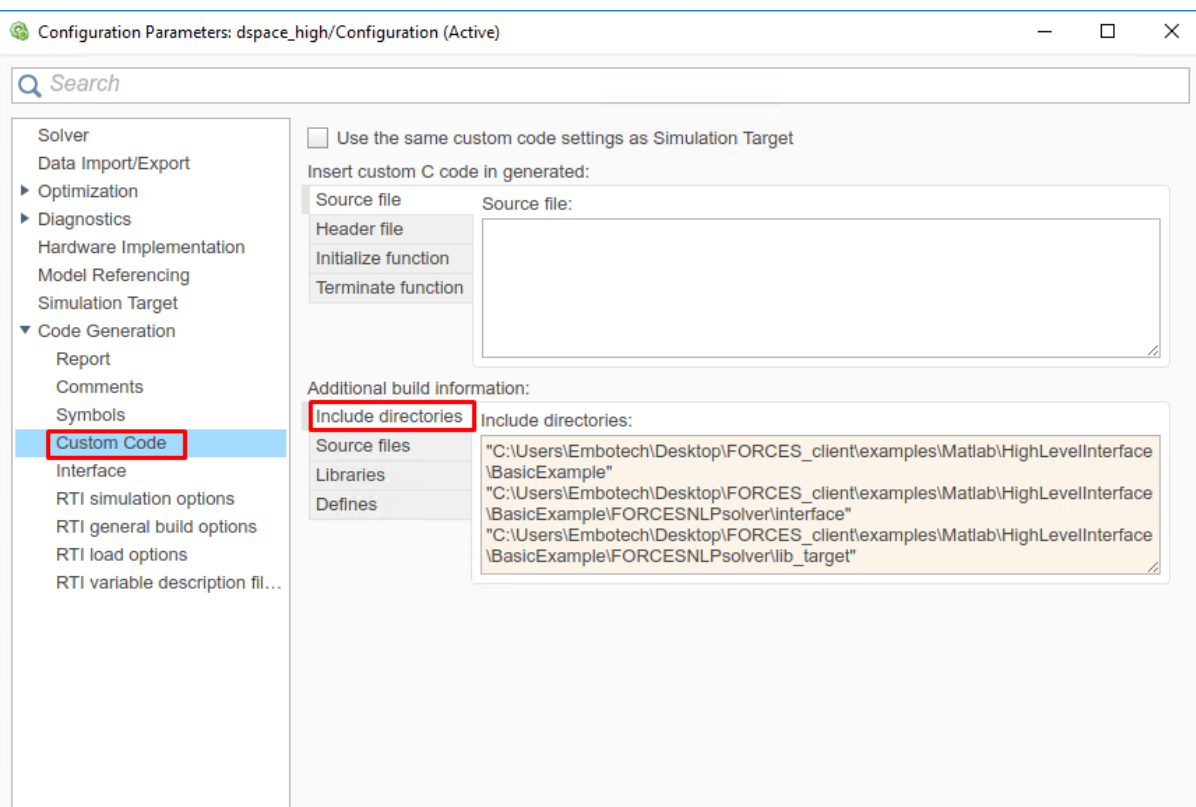

Figure 13.10: Add the directories included for the code generation.
10. (Figure 13.10) In the “Code Generation/Custom Code” tab, include the directories: